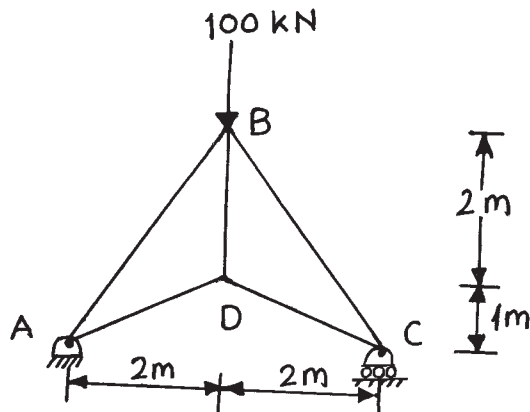

Fig. No. 13
- c) Calculate magnitude and state the nature of forces in the members AB, BC, CD, AD and BD. of a truss as shown in Fig. No. 13. Use method of joints.